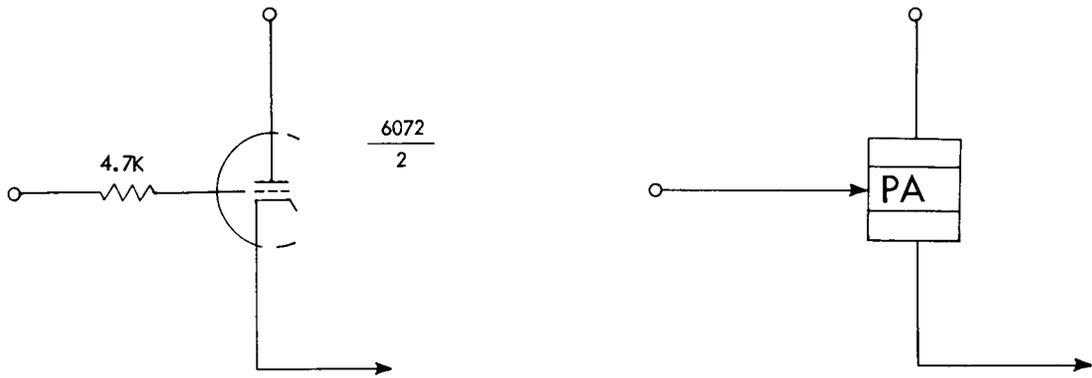

FIGURE C44. PREAMPLIFIER (DRUM) -- PA
The drum preamplifier (PA) (Figure C44) is used to power the signals from the drum read heads. Preamplifiers are primarily cathode followers and no voltage amplification takes place in this stage. The amplification of preamplifiers is about 0.6. The input signal to the preamplifier is approximately 100 millivolts, and the output is approximately 60 millivolts. Preamplifiers are connected in a cathode-follower OR circuit configuration with one preamplifier for each track in each channel. Each OR circuit composed of the preamplifiers, therefore, contains 30 preamplifiers with one common load resistor. This common load resistor is the 1.5K resistor at the input to the ADC (section 2.04.01, Book C). This preamplifier OR-circuit configuration is somewhat unusual in that each preamplifier has its input voltage up at the same time, but only one preamplifier is supplied plate voltage at a time. Therefore, only one preamplifier at a time has an output, and an input to the common amplifier.